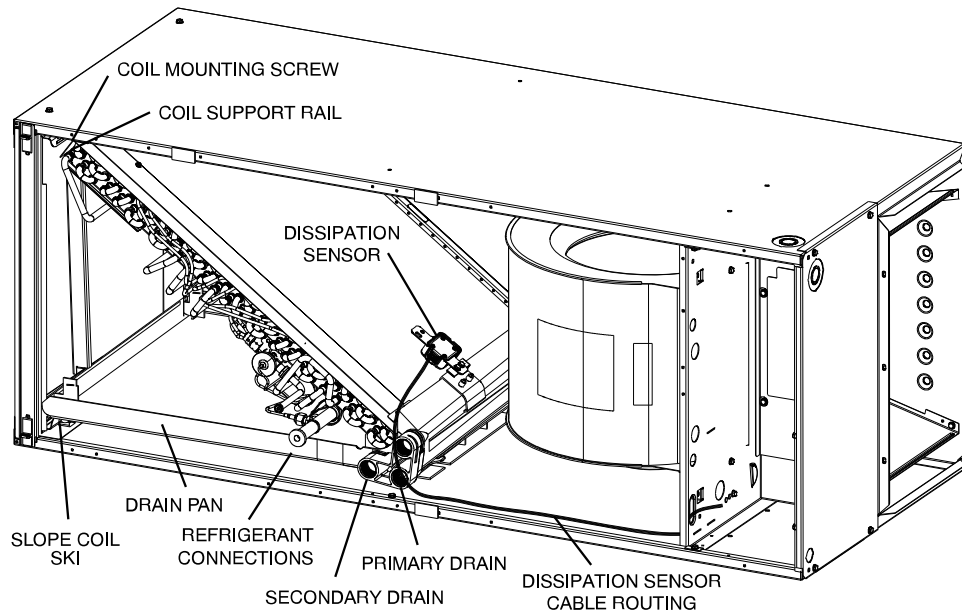

Fig. 6 – Slope Coil in Horizontal-Right Application
1. Remove blower and coil access panels and fitting panel (Fig. 6).
6. Lay fan coil on its right side and reinstall coil assembly with condensate pan down (Fig. 6).
8. Reconnect sensor wire harness by following routing shown (Fig. 6).